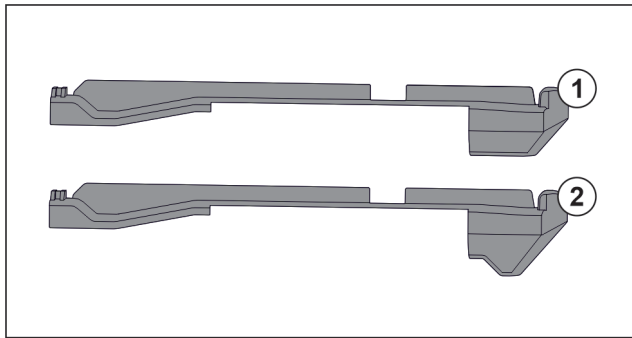

Fig. 47 Comparing attachments
There are two different attachments in the appliance. The attachment above the lowest drawer Fig. 47 (2) has a three-cornered edge. All other attachments Fig. 47 (1) have a straight edge.
- ▶ Fit attachment Fig. 47 (2) with the three-cornered edge above the lowest drawer.
- ▶ Fit attachment Fig. 47 (1) with straight edge in all other positions.